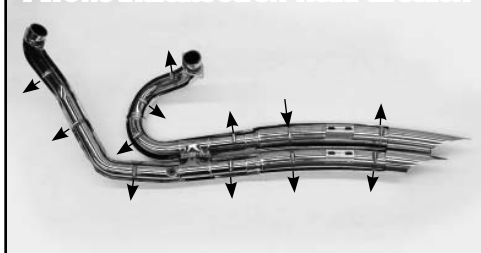

FIGURE 6
8. Slide the two nut plates (supplied) into the brackets that are welded to the back side of the mufflers (Figure 6). Loosely install four 5/16" x 5/8" flange head bolts (supplied).